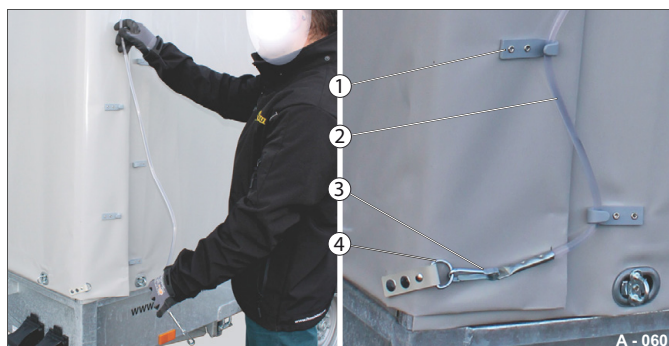

Fig. 68 Secure throwing cable
- Lay the throwing cable (Fig. 68 /2) alternately around the lugs (Fig. 68 /1) from top to bottom.
- Hook the snap hook (Fig. 68 /3) into the retaining ring (Fig. 68 /4).